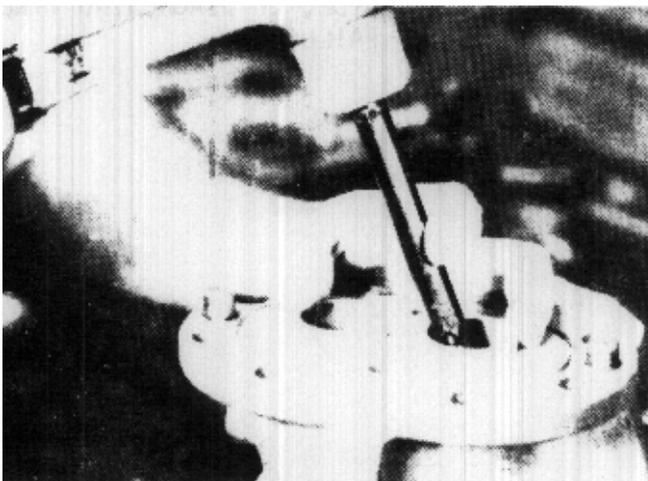

FIGURE 69
3. Lay flange on open jaws of vise (pilot down), using punch and mallet tap old seal out of the bore. Caution must be taken not to scar the seal bore in the flange. Drive the seal out straight by moving the punch around the seal as it is driven out. (Fig. 69)